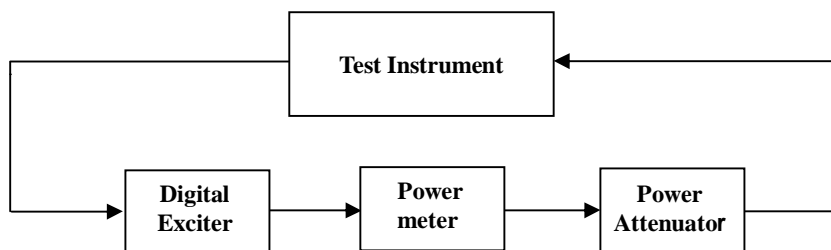

Figure 1
- a. Connect test instrument to exciter according to Figure 1;